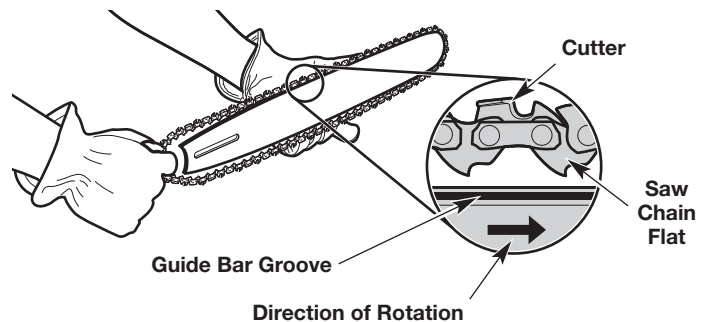
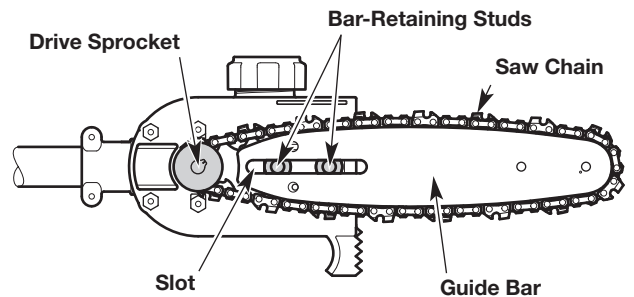

Fig. 12
Fig. 13
3. Fit the saw chain into the guide bar groove (Fig. 12). Make sure the cutters point in the correct direction of rotation (Fig. 12). Keep a loop of saw chain at the back end of the guide bar (Fig. 12).
4. Hold the saw chain and guide bar together in position over the unit. Loop the saw chain around the drive sprocket and install the guide bar onto the bar-retaining studs (Fig. 13). Make sure the guide bar is flush against the mounting surface. Make sure the flats on the saw chain are in the grooves on the drive sprocket (Fig. 12 & Fig. 13).
6. Install the bar cover. Tighten the screw and two (2) bar-retaining nuts.